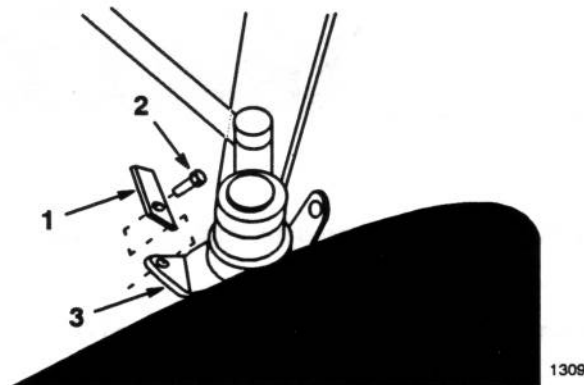

Figure 4
6. Install steering spindle stops in front of the rear tab on front wheel spindles (Fig. 4). Align so stops contact the axle during tight turns and wheels do not contact the frame. Secure with self tapping screw (Fig. 4).